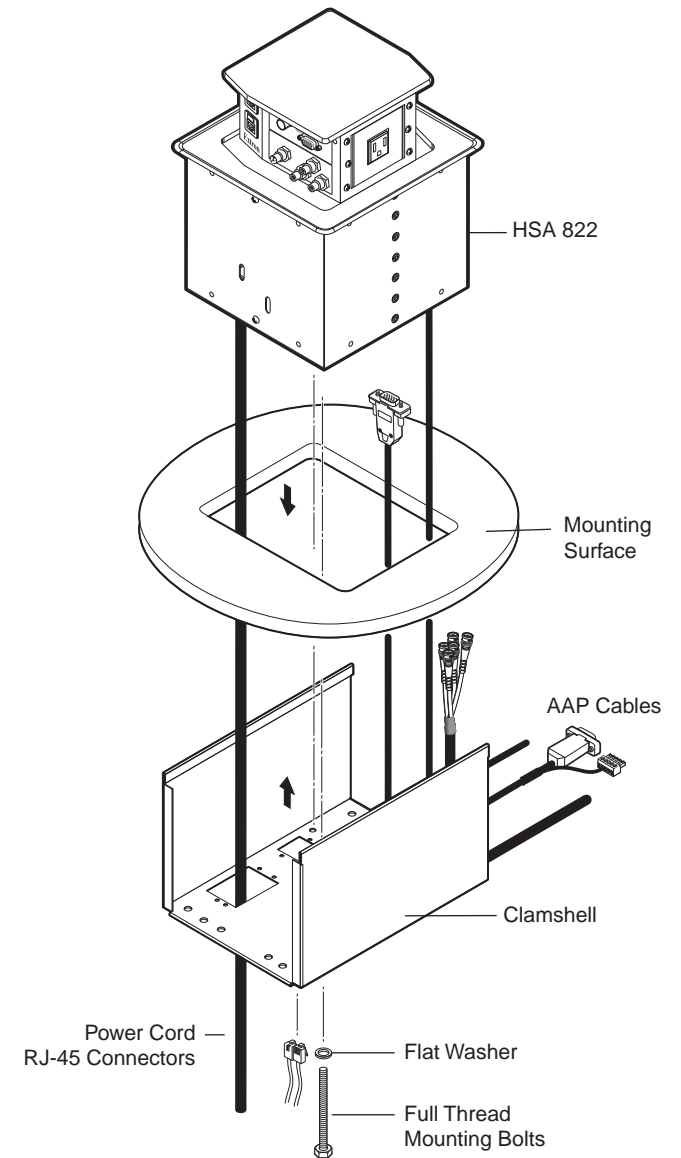

Figure 2-3 — Mounting the HSA 822 enclosure
8. From the underside of the table, bolt the clamshell to the enclosure with two bolts of optimum length (included) (figure 2-3).